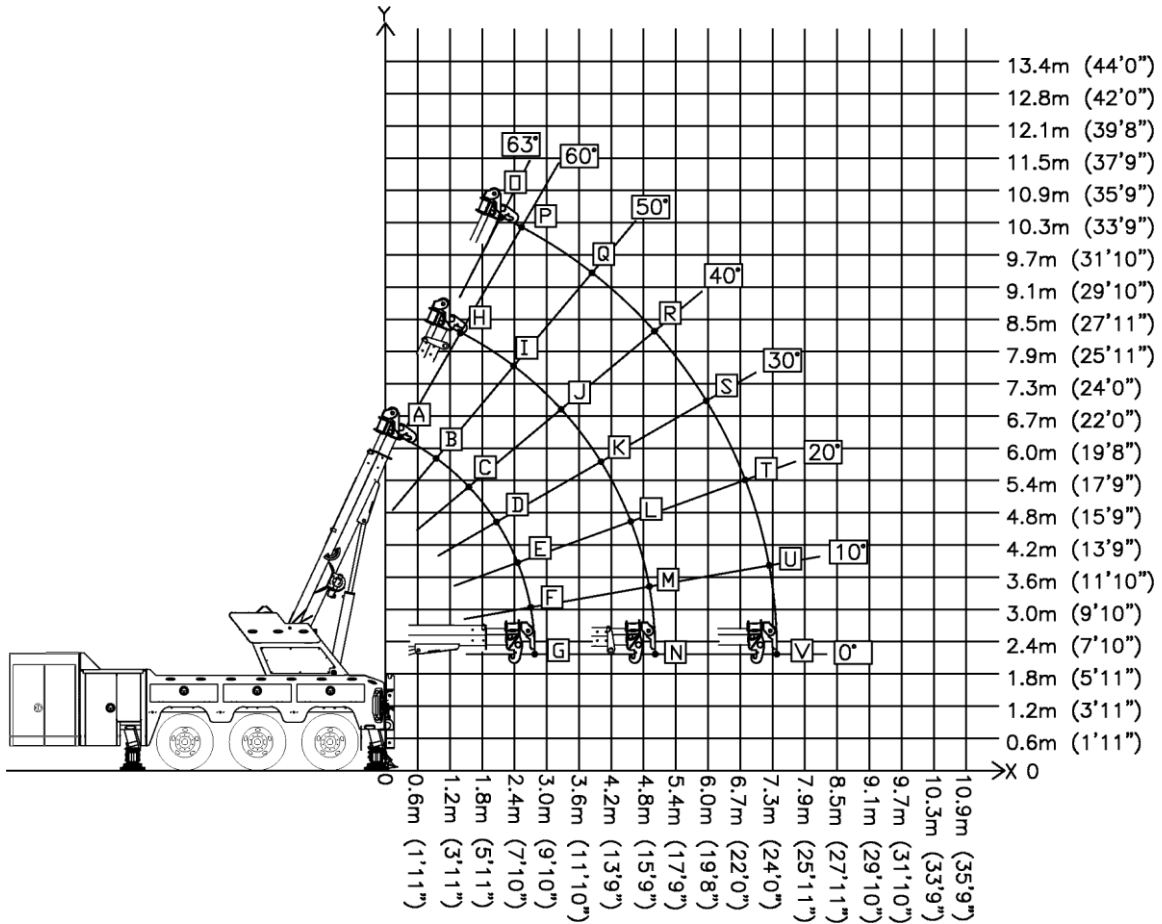

Figure 13 – Lifting Capacity of the 40/50 CSR from Behind
- Figure 13 – Lifting Capacity of the 40/50 CSR from Behind